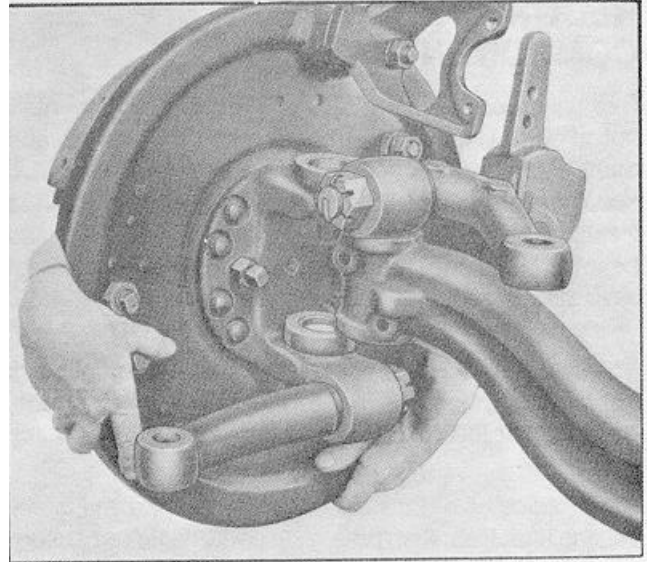

Figure 11
- F. Remove the knuckle pin sleeve and lift off steering knuckle, thrust bearing, spacing washers, and backplate assembly (Figure 11).